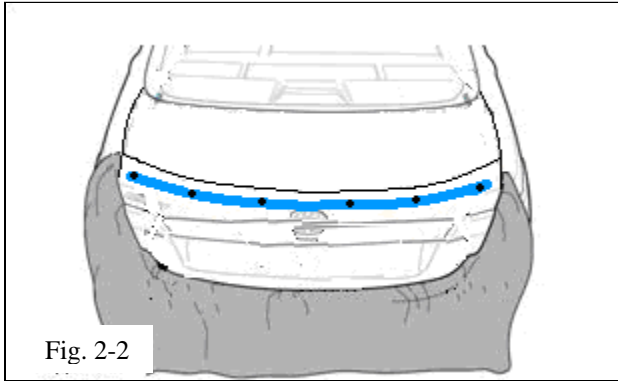

Fig. 2-2
(d) Apply masking tape to the trunk lid surface in the areas where the six (6) mounting holes will be drilled (Fig. 2-2). Two inch wide blue painters masking tape is recommended.